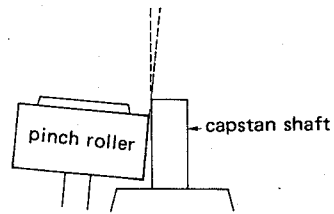
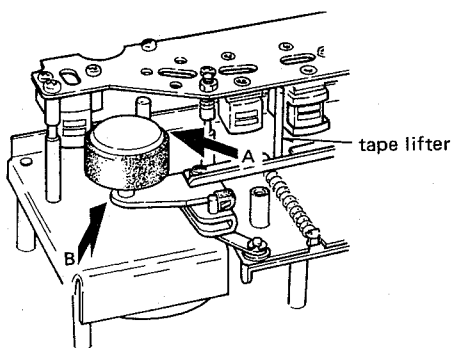

Fig. 2-16 View in direction A (example of non-parallelism)
Fig. 2-15 Directions for pinch roller parallelism check
1. Let pinch roller draw near toward capstan shaft by manually lifting up tape lifter shown in Fig. 2-15.
2. Check pinch roller/capstan shaft parallelism viewed from direction of arrow A shown in Fig. 2-15. Refer to Fig. 2-16.
- (1) Use the jig as near as possible to the pinch roller spindle.
- (2) Do not touch the surface of spindle.
- (3) Use no other tool for this adjustment!
4. Remove pinch roller, then push up tape lifter to visually align pinch roller spindle with the capstan shaft viewed from direction of arrow B in Fig. 2-15.